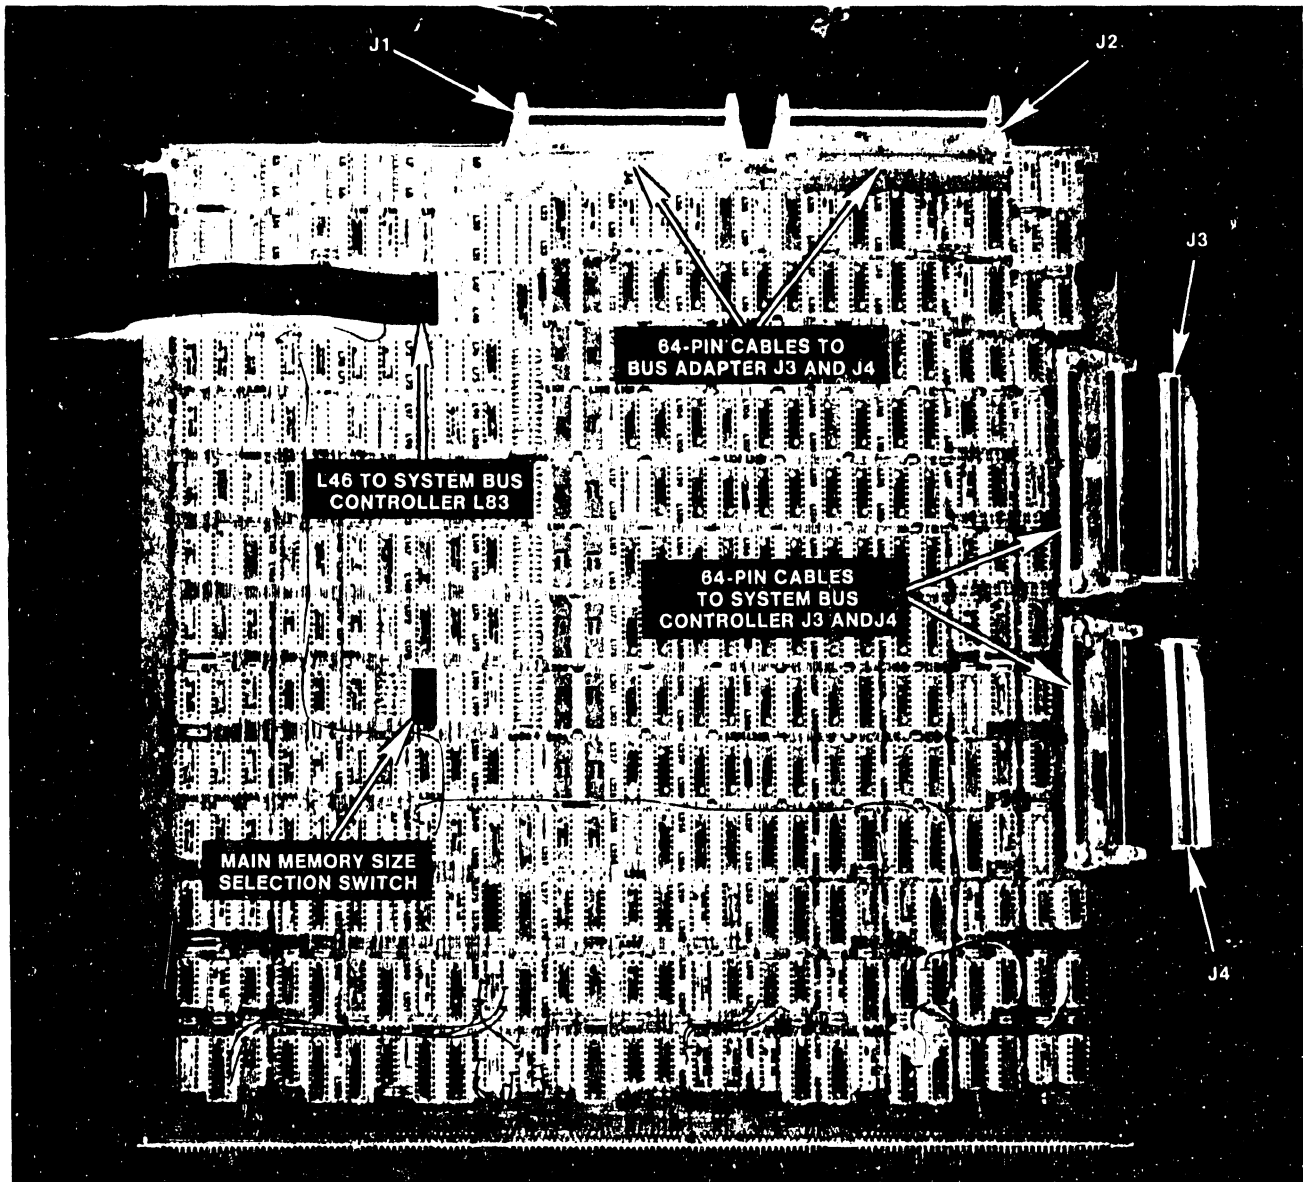
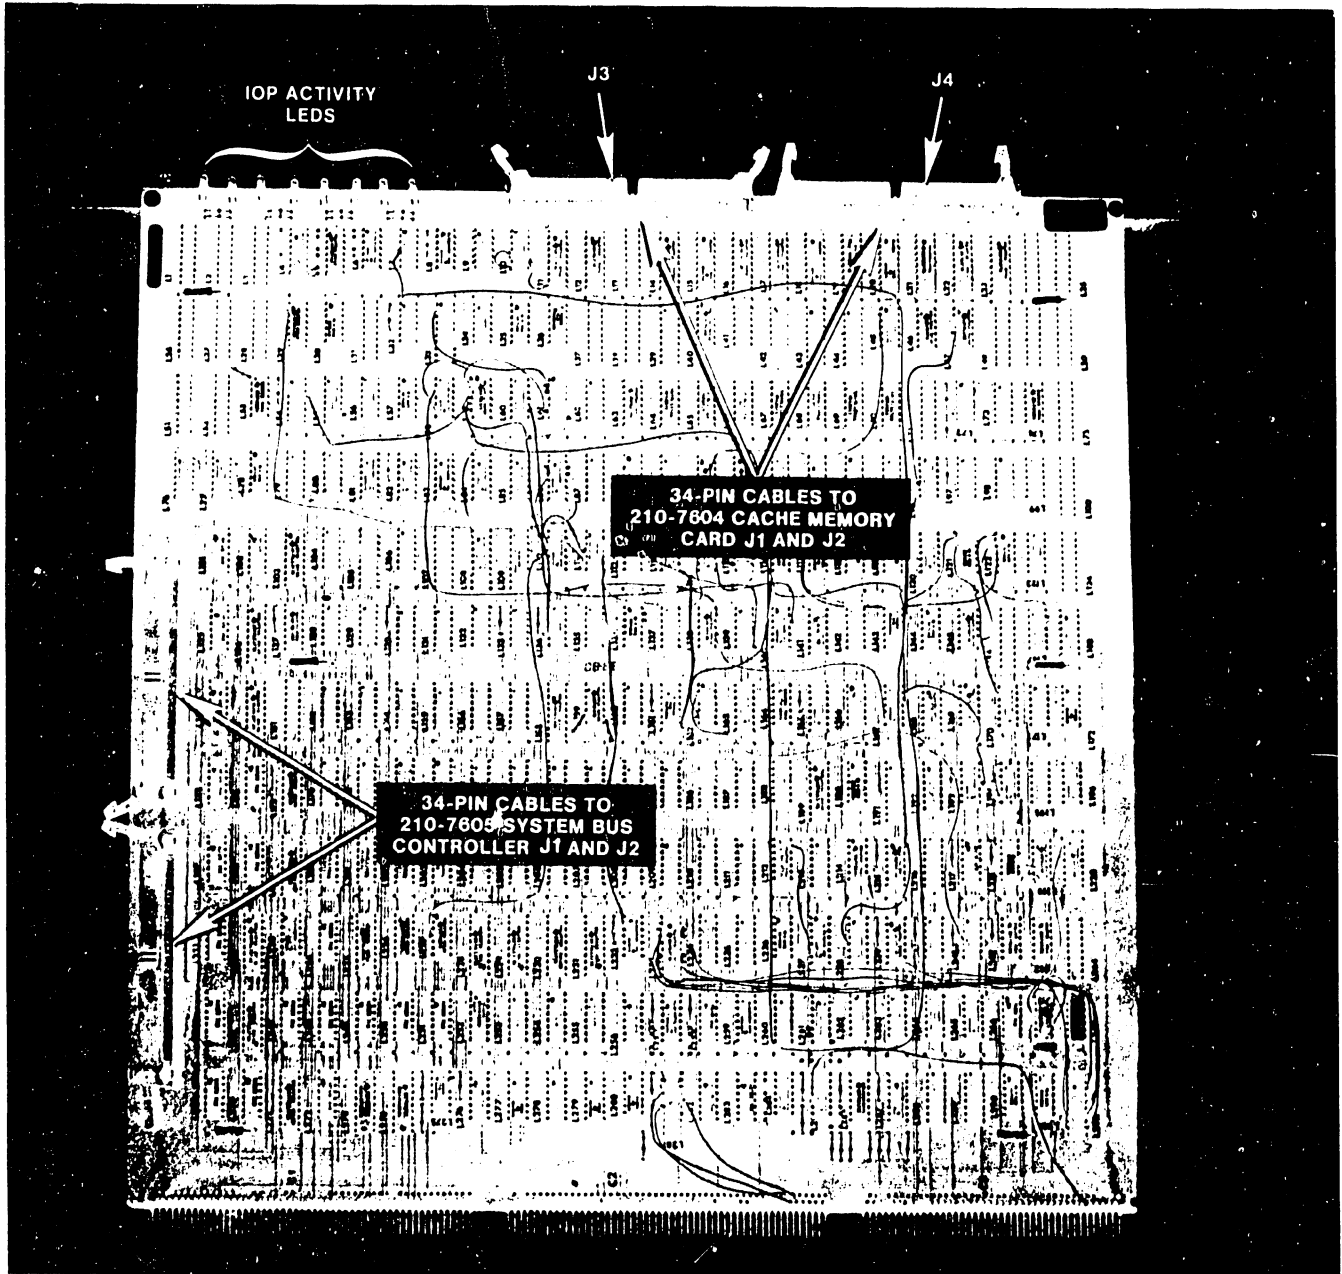

FIGURE I-2. 210-7604 CACHE MEMORY CARD
FIGURE I-3. 210-7911 BUS ADAPTER CARD
- B. Remove the two 60-pin connectors from the top edge of the 7604 Cache Memory card (Figure I-2) that attach to the 7611 BA card(s) (Figure I-3). Remove the two 64-pin connectors that attach to the 7605 SBC card (Figure I-4) from the right edge of the 7604 Cache Memory card. Remove the 16-pin ribbon cable from L46 of the 210-7604 Cache Memory card to L83 of the 210-7605 SBC card. Remove the Cache card by grasping the top corners and gently rocking it from side-to-side while exerting a steady upward pressure. Once the card is free of the slot, ease it up and out of the Mainframe.